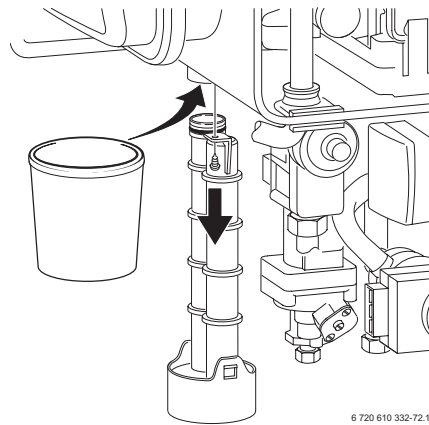

Fig. 46
- ▶ Unscrew condensation trap and place suitable container underneath. Refer to fig. 46.
In order to prevent spillage of condensate the condensation trap should be completely removed, (see page 38, fig. 46).